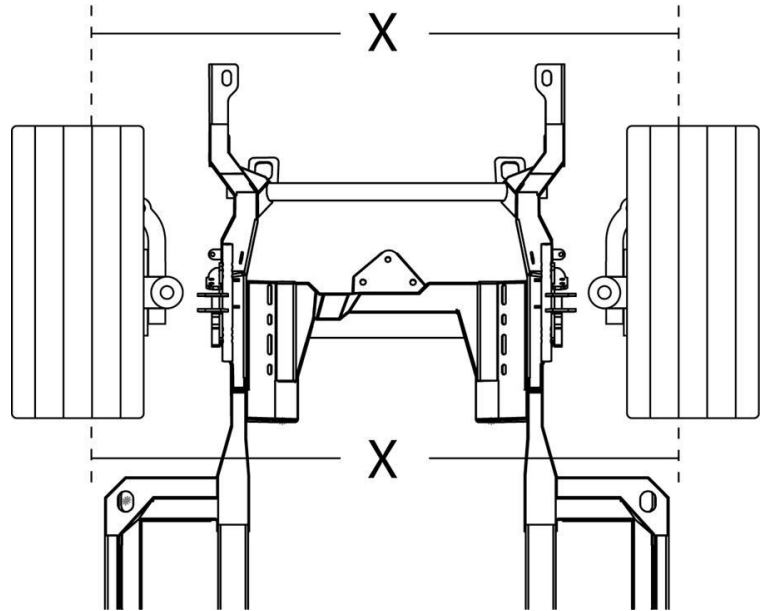

Figure 6: Toe Setting
Using the center point of the frame as a reference, align the center link's midpoint with the vehicle's center. Now, with the suspension at ride height and the wheels and tires bolted in place, adjust each side's toe setting by turning the adjuster sleeves equally either forward or backward until the tires are facing forward. You can get the toe setting fairly close by adjusting the suspension until the distance between the same points on the front side of each tire equals the distance between the same points on the rear side of each tire, see (X) in figure 6. Adjust as needed until both front and rear measurements are near the same. When finished, snug all four jam nuts finger tight. This will be close enough to drive the car onto a trailer to take to a competent alignment shop.